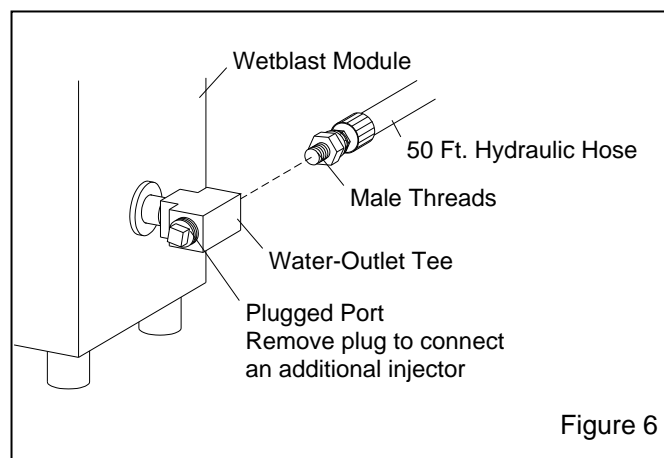

Figure 6
**2.5.2** Apply thread sealant to the male threads on the other end of the 50-ft. hydraulic hose and connect it to the tee located on the side of the module as shown in Figure 6.